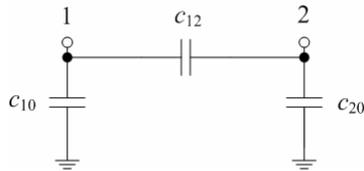

Figure 2.5 Equivalent network of partial capacitances for the tutorial example in Figure 2.4.
- Select in the List menu the Ckt option to display the circuit description of the equivalent network of capacitances. In this case, Conductor 0 is assumed to be grounded, and the equivalent network is shown in Figure 2.5 (which is the same as Figure 2.2, because in both cases we have two hot conductors).